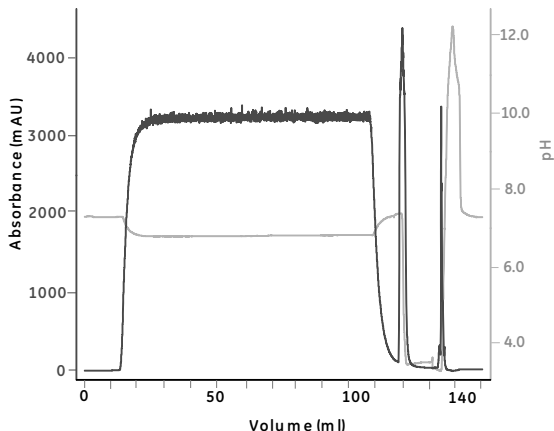

Fig 5. Purification of a monoclonal antibody from a mammalian cell culture on MabSelect SuRe LX.
When optimizing elution conditions, determine the highest pH that allows efficient desorption of antibody from the column. This will prevent denaturing sensitive antibodies due to exposure to low pH. Step-wise elution (Figure 5) is often preferred in large-scale applications since it allows the target monoclonal antibody to be eluted in a more concentrated form, thus decreasing buffer consumption and shortening cycle times. It might be necessary to decrease the flow rate due to the high concentrations of protein in the eluate.
Figure 5 shows an example of purification of a monoclonal antibody from a clarified mammalian cell culture on MabSelect SuRe LX. The load was 21 mg antibody/ml column volume (CV), and the yield was 94% of highly purified antibody. A HiScale 16/20 column with a CV of 20 ml and a bed height of 10 cm was used.
The ligand leakage from MabSelect SuRe LX is generally low. For example, the eluate from the purification run shown in Figure 5 contained 11 ppm (ng ligand/mg antibody) of leached ligand. However, in many monoclonal antibody applications it is a requirement to eliminate leached ligand from the final product.